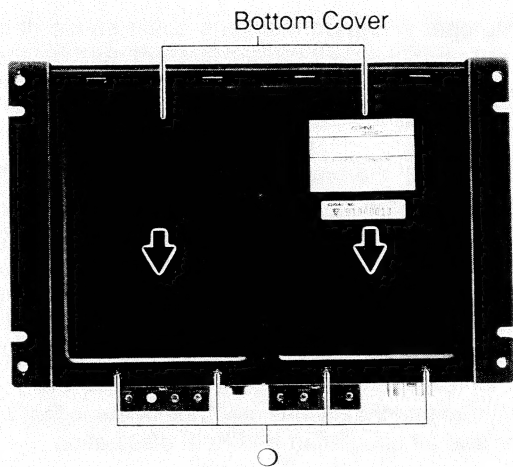

Figure 1
- (1) Remove four screws marked "○" as shown in Figure 1.
- (2) The Bottom Cover will be removed by pulling out in the arrow direction as shown in Figure 1.